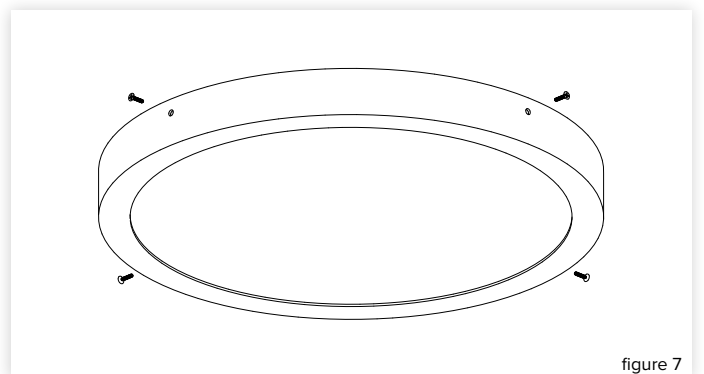

figure 7
5. Fix the LED light to the fixing brackets, as per figure 7.